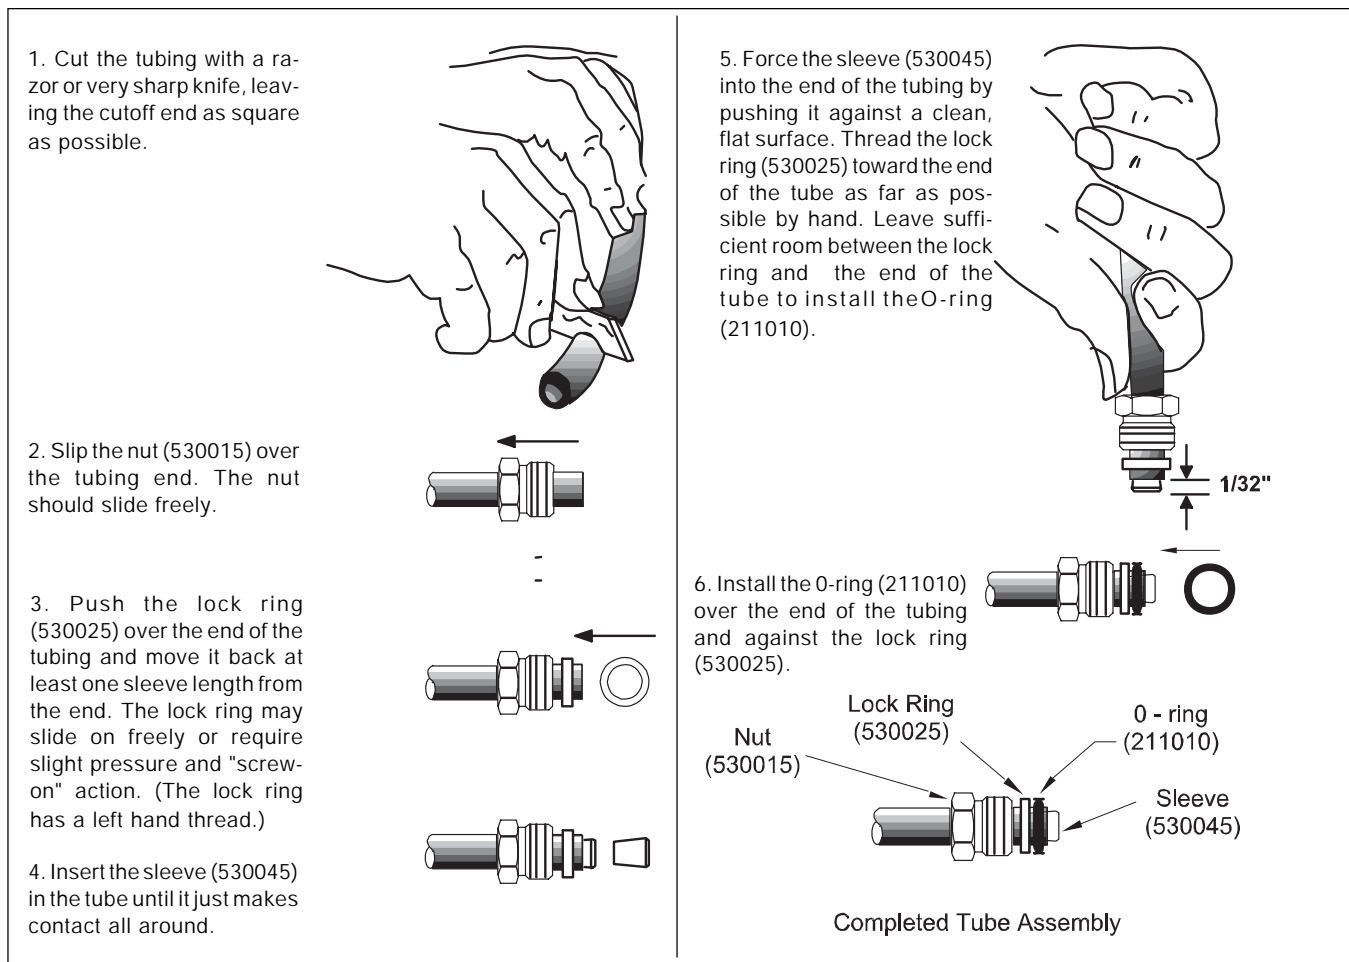

Figure 13. Assembling Tubing Connectors
- Assemble tubing connectors on every tube end as described and illustrated in **Figure 13**.